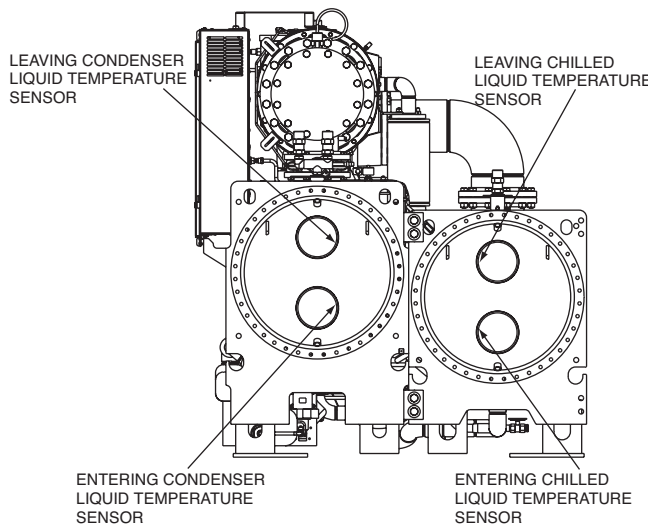

Fig. 21 — Chiller End View (Q,R Compressors Only)
b. Entering and leaving chiller liquid temperature sensors. See Fig. 21.